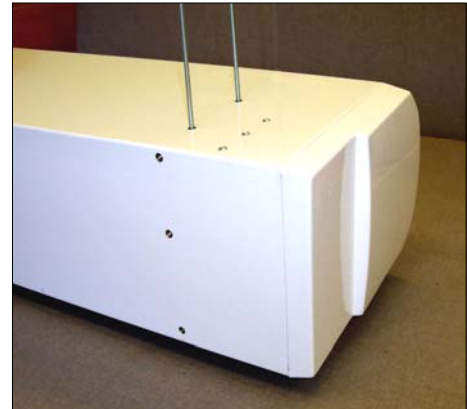

Fig 3
**Step 1** Screw the threaded rods into all of the holes in the top face of the unit as shown in Fig 3.